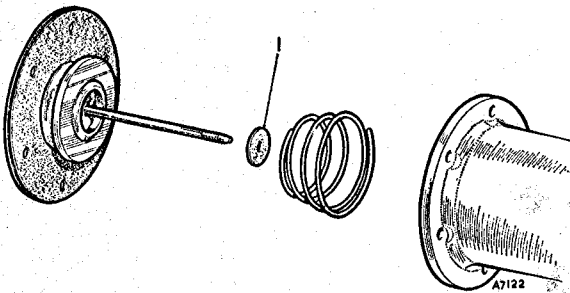

Fig. 4. Fitting the diaphragm to the coil housing. Note the impact washer (1)
6. Place the armature spring into the coil housing with its larger diameter towards the coil (Fig. 4).